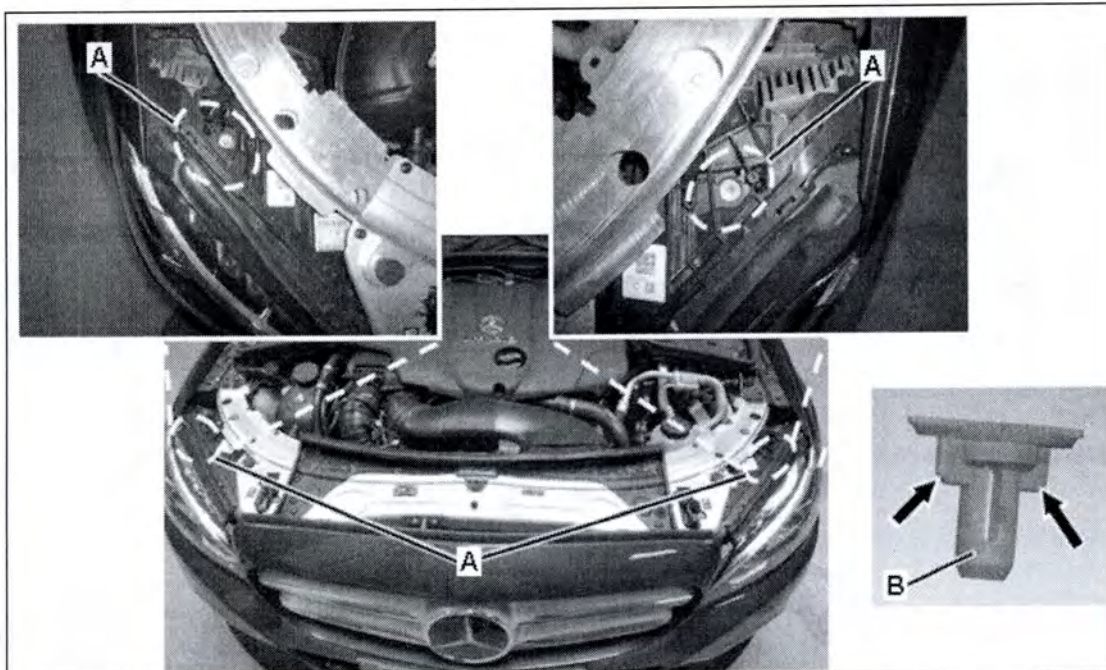

Figure 1
2. Retrofit cap (B, Figure 1) for headlamp adjustment screws (A) at left and right:
- Position cap (B, Figure 1) on headlamp adjuster (A) so that the tabs (arrows) on the cap (B) align with the grooves in the adjuster (A).
- Press the cap (B) into adjuster (A) by hand until it locks into position.